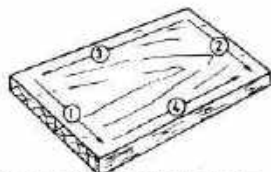

Fig.664 STEPS OF JOINTING EDGES
4. Hold the board firmly with both hands; slowly push it forward over the cutter head. Jointing completely across the end of a board is satisfactory when squaring up stock, as shown in Fig.664